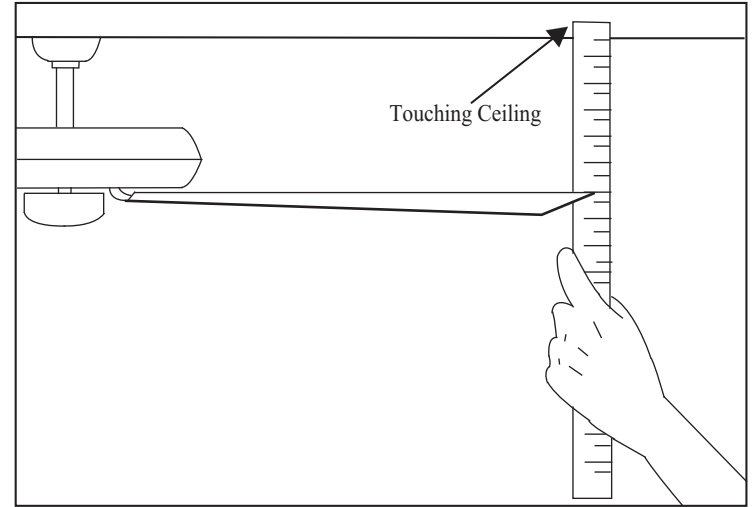

Figure 19
2. Most fan wobble problems are caused when blade levels are unequal. Check this level by selecting a point on the ceiling above the tip of one of the blades. Measure from a point on the center of each blade to the point on the ceiling. Measure this distance as shown in Figure 19. Rotate the fan until the next blade is positioned for measurement. Repeat for each blade. Measurements deviation should be within $1/8$ ". Run the fan for 10 Minutes.